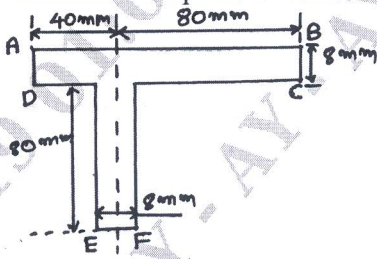

Fig.Q2(b)
- b. A beam having a cross-section as shown in the Fig.Q2(b) is subjected to a bending moment of 1500 N-m in a vertical plane. Calculate the point at which the direct stress acts. (12 Marks)